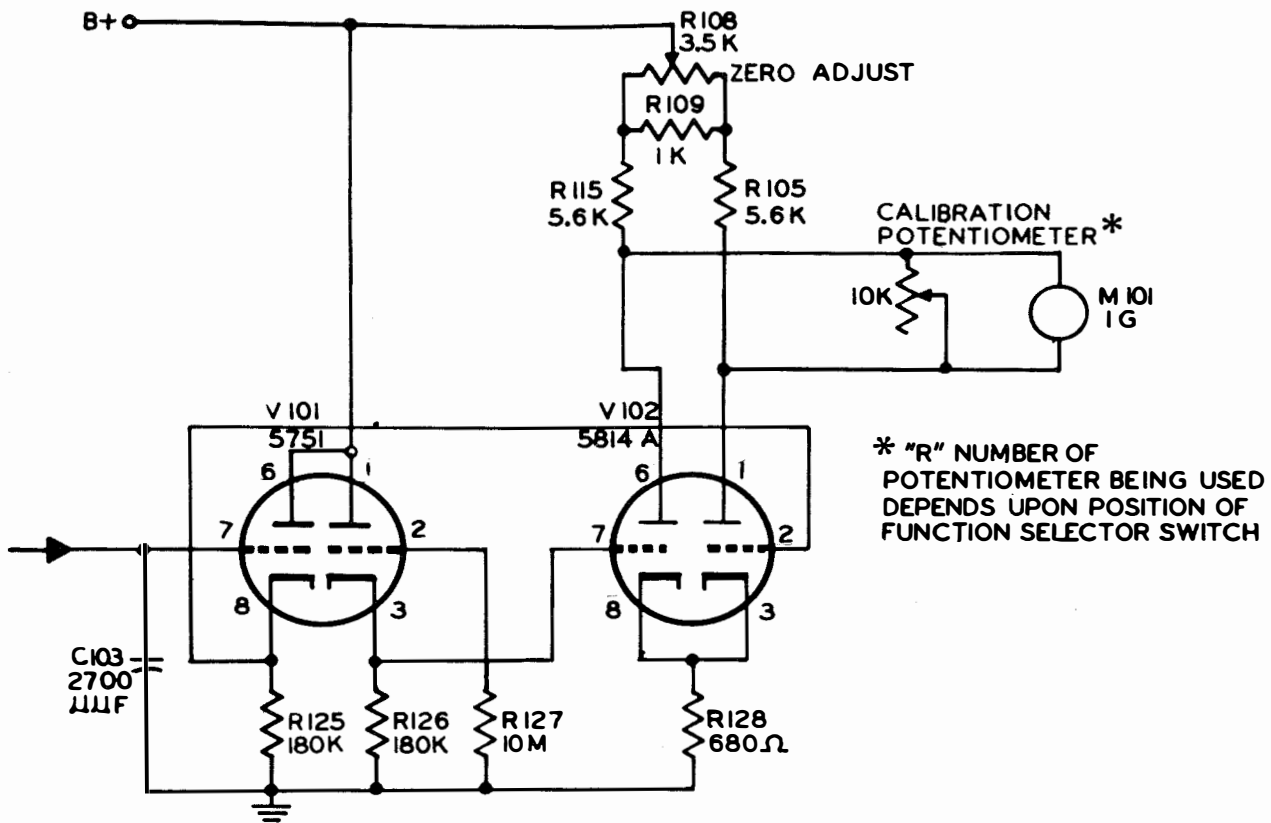

Fig. 2-2. BASIC METER CIRCUIT
a. METER CIRCUIT. (See Fig. 2-2).
Figure 2-2 illustrates the basic meter circuit for all measurements. A twin triode, 5751, V-101 is connected as a cathode follower and a twin triode, 5814-A, V102, is connected in a bridge circuit as shown. With no voltage applied to pin 7 of V-101, the ZERO ADJUST control, R-108, is set so the meter reads zero. With a negative voltage applied to grid (pin 7) of V-101, there is a decrease in current through that triode section and the cathode voltage decreases. Cathode (pin 8) of V-101 is coupled directly to grid (pin 2) of V-102. The decreasing voltage on cathode pin 8 of V-101 causes the voltage on the grid (pin 2) of V-102 to decrease, which causes a decrease in current through that section of the triode. The decrease in current causes the cathode voltage of that section of V-102 to decrease. The voltage applied to the meter from plate (pin 1) of V-102 will increase. The de-